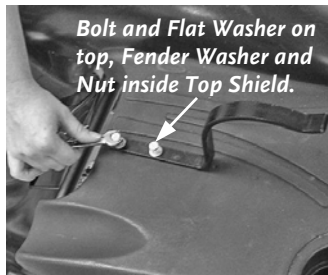

Figure 1b
2. Using the 7/16" Wrenches, install the Hose Rest Bracket to the Top Shield using the two (2) 1/4" x 1" Cap Screws, 1/4" Flat Washers, 1/4" Fender Washers and 1/4" Lock Nuts provided (**Figure 1b**).